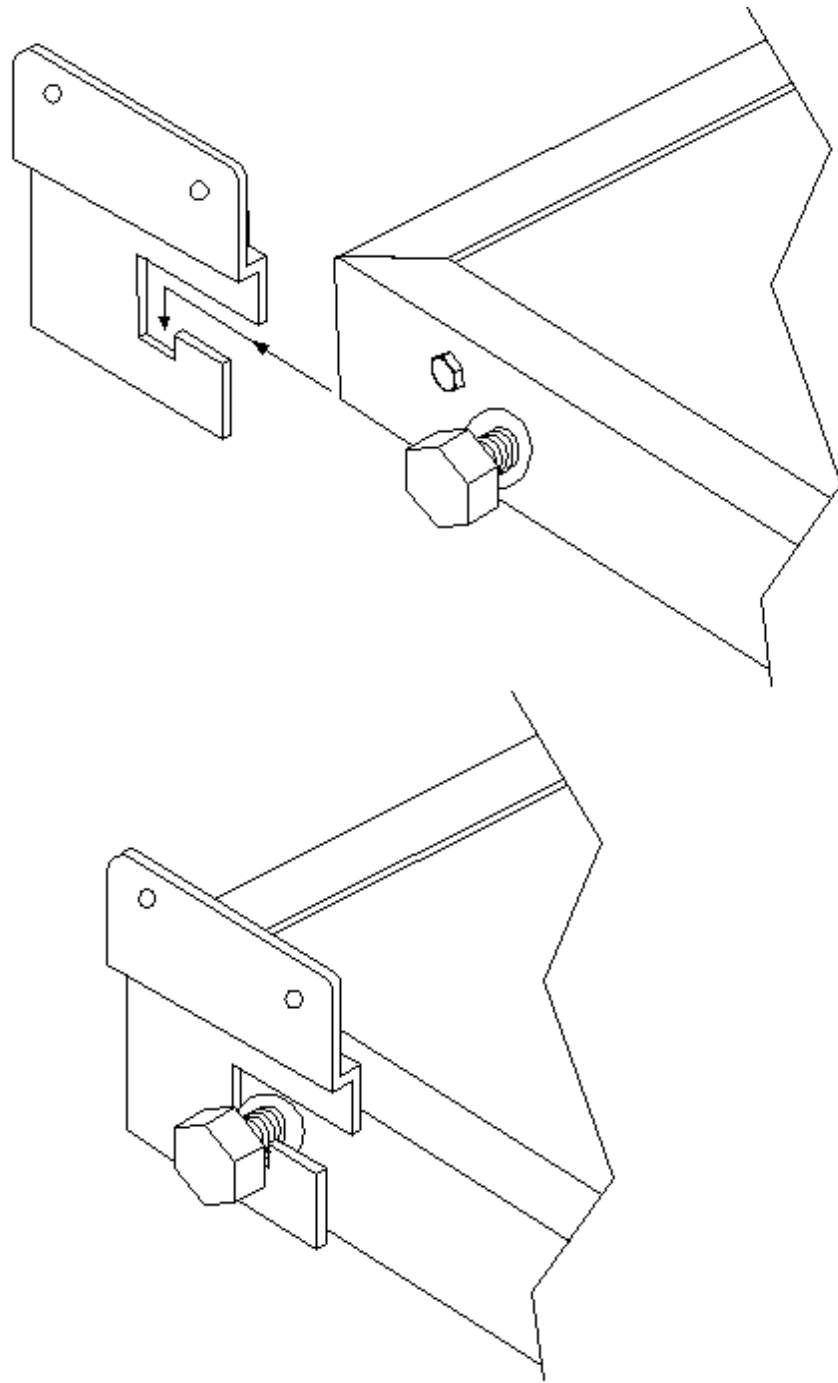

Figure 17.
6. Place the rest bench into positions by situating the bolts into the slot in the front of the rest bench brackets and pushing toward the back of the slot until you feel the bolts drop into the bottom of the slot as shown on Figure 17.